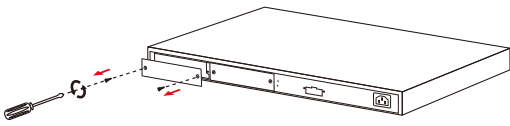

Figure 2 Remove the blank bracket
1. Place the Switch on a flat surface. Grasp the thumbscrew on the sides of the blank bracket and turn counter-clockwise to unscrew them. You can also use a screwdriver remove the blank bracket (See Figure 2). Do not discard the blank bracket. Put the blank bracket back if you remove the module out of the Switch.